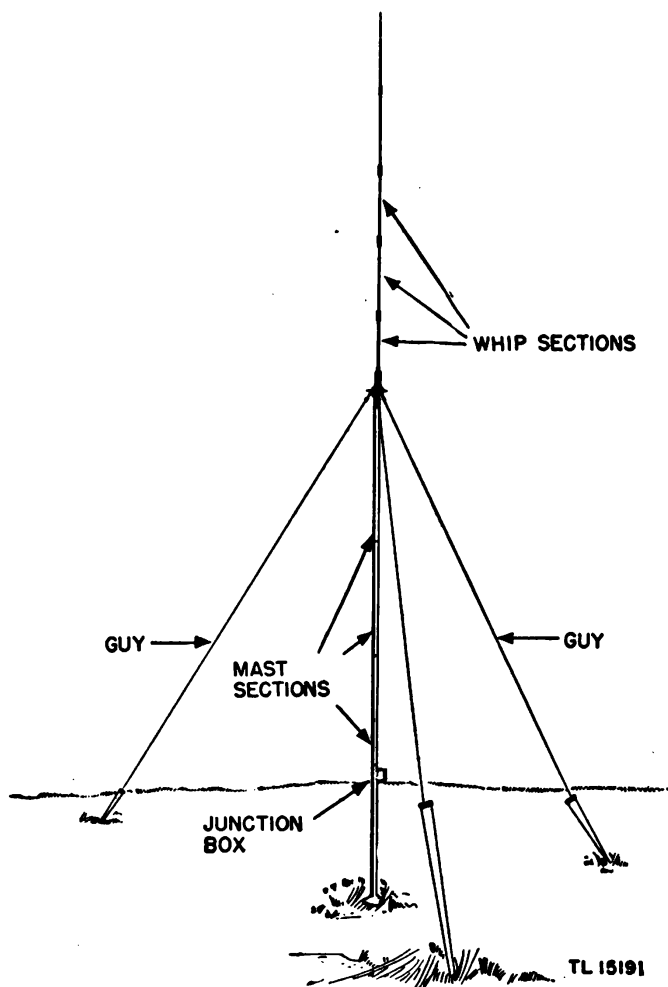

Figure 2. Antenna AN-78-A—general view.
(2) The addition of a whip antenna extends the length of one vertical antenna to 33 feet.
(3) These two masts are erected 21 feet 9 inches apart. The horizontal doublet antenna, consisting of two $7\frac{1}{2}$ -foot antenna sections with insulators and supporting wire, is installed between the two masts which serve only as a physical support for this doublet. A "twisted-pair" is used as a transmission line for this antenna.
b. Antenna AN-78-A (fig. 2) consists of one mast with a whip antenna attached and is the same (excepting the junction box) as the 33-foot antenna of Antenna Equipment RC-219-A. This antenna is used to cover frequencies below 2 mc.
b. CONTENTS OF CHEST CH-166. (1) Antenna Equipment RC-219-A.
c. ANTENNA AN-78-A (figs. 2 and 7). The procedure is the same as for assembling the 33-foot mast of Antenna Equipment RC-219-A except that a mast section (4857) with the single-socket junction box is used.